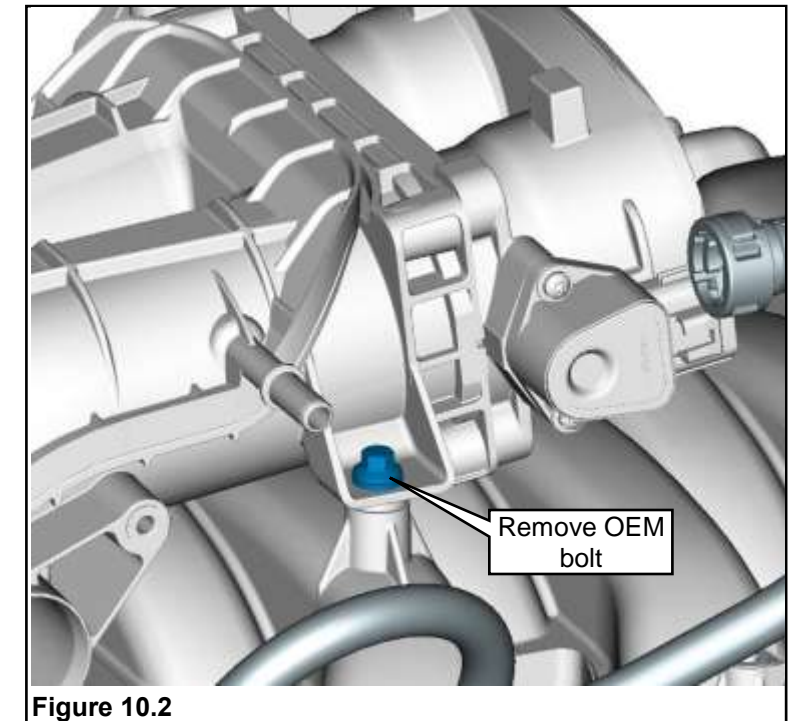

Figure 10.2
1. Remove the OEM throttle body adapter M6 x 20 mounting bolt. Reuse this bolt to help secure the FRPCM bracket. **Figure 10.2.**
2. Remove the bolts at the top of the fender. These bolts are used to secure the SRM assembly. Save for reuse. **Note:** The front battery tray bolt is used at the top rear of the SRM bracket. The rear lip of the bracket must be placed under the front lip of the battery tray. **Figure 10.2.**